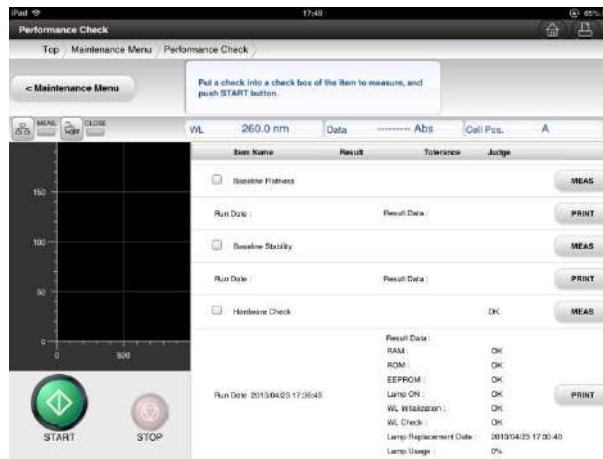

Fig. 6-16 Performance Check Screen
- (1) Display the Performance Check screen (Fig. 6-16). Measure the baseline stability at the room temperature of 20-25 °C and the temperature variation of 5 °C or less 2 hours after the power activation. Press the **MEAS** button on the right edge of the item name "Baseline stability." Then, the baseline stability check is performed.